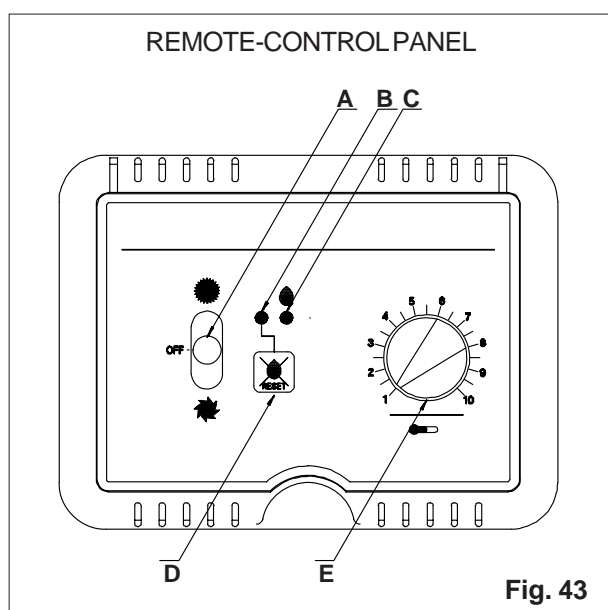

Fig. 43
(The instructions to the remote-control panel functions - supplied on request - refer to fig. 43).
If the air heater operation is controlled by the remote-control panel (fig. 43), when the room has reached the desired temperature, adjust the room thermostat by slowly turning (counterclockwise) the regulation dial (E) until the burner turns off, indicated by the green lamp (C).